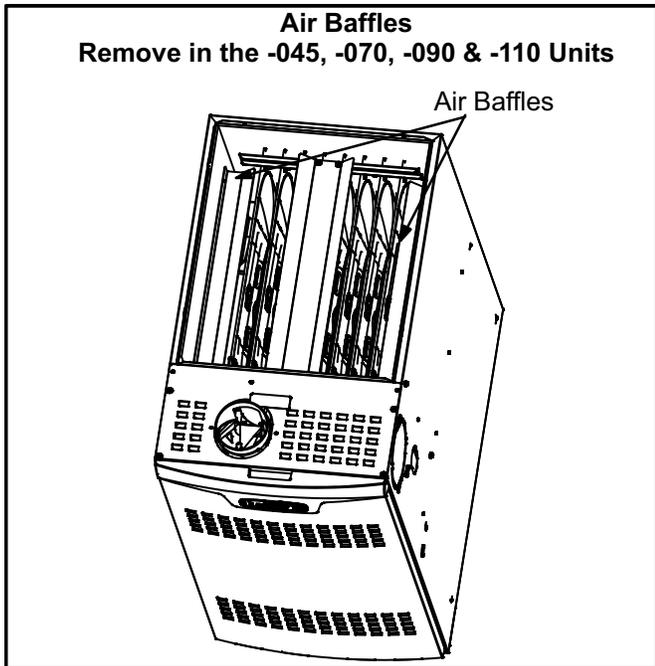

FIGURE 3
- 13- **-045, -070, -090 & -110 only** - Remove and discard air baffles (figure 3) from both sides of the cabinet.